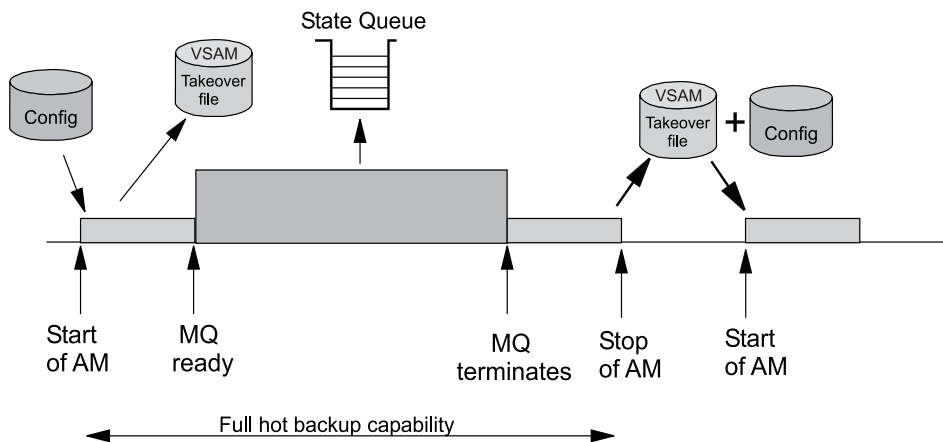

Figure 5. Automating WebSphere MQ with SA z/OS
Figure 5 on page 36 shows the timeline for the WebSphere MQ solution when WebSphere MQ is automated by SA z/OS.
2. If the PAM or its system fail during the startup phase, an SAM becomes the new PAM. The new PAM reads the actual state of the automatable resources from the takeover file. (Note that this is not represented in Figure 5.)
4. If the PAM or its system fail while WebSphere MQ is running, an SAM becomes the new PAM. The new PAM uses the information in the shared WebSphere MQ queues. (Note that this is not represented in Figure 5.)
- If there are any SAMs, one of these becomes the new PAM. (Note that this is not represented in Figure 5.)